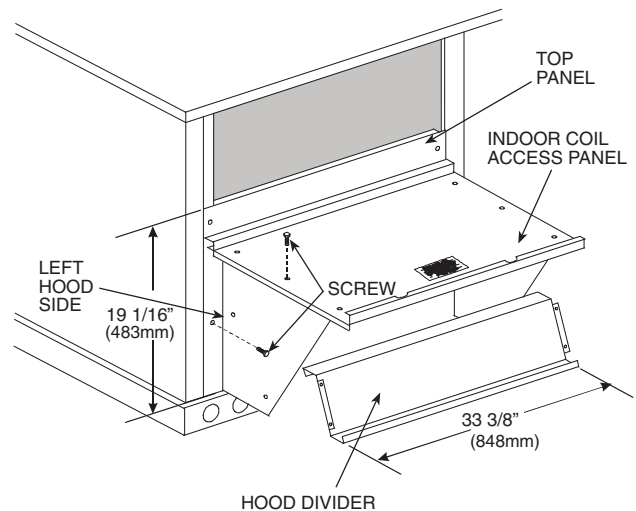

Fig. 18 — Economizer Hood Construction (Size 08-14 Shown)
2. Swing out indoor coil access panel and insert the hood sides under the panel (hood top). Use the screws provided to attach the hood sides to the hood top. Use screws provided to attach the hood sides to the unit. See Fig. 18.
4. Insert the hood divider between the hood sides. See Fig. 18 and 19. Secure hood divider with 2 screws on each hood side. The hood divider is also used as the bottom filter rack for the aluminum filter.